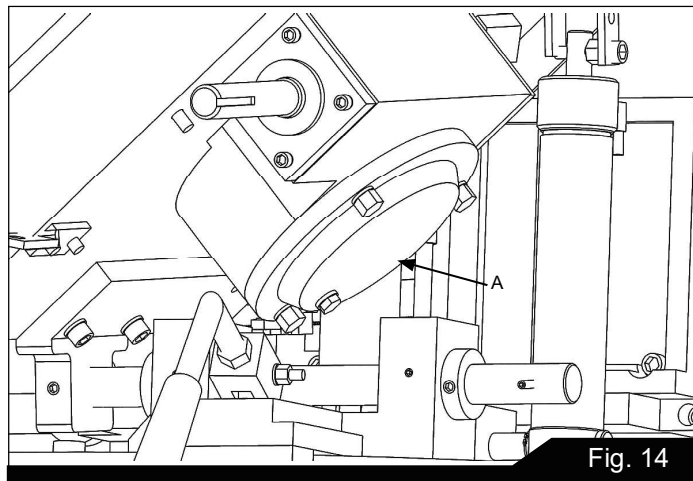

Fig. 14
After the first 50 hours of use the gear case should be drained and refilled. Remove drain plug (A) Fig. 14 drain all of the oil out of the gearbox. Remove oil filler plug located underneath the right wheel and fill the gear case with 850ml of multi-function gearbox oil or equivalent.